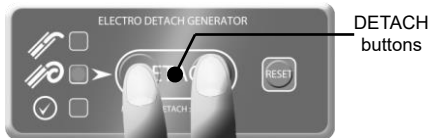

Figure 6. How to generate the detaching output
- (4) With checking the location of the radiopaque marker using X-ray fluoroscopy, move the i-ED COIL forward. When the proximal end of the radiopaque marker of the i-ED COIL pusher reaches the second marker (proximal side) of the microcatheter, confirm that the red lamp is off, the green lamp is lit, and the buzzer beeping has stopped.
- (5) Press both DETACH buttons simultaneously while the green lamp is lit, and the detaching output is generated for 5 seconds. (Figure 6.) While the detaching output is generated, the green lamp blinks and the buzzer beeps intermittently. For Manual Detach, see 3, "MANUAL DETACH" procedure in [Operation Methods].